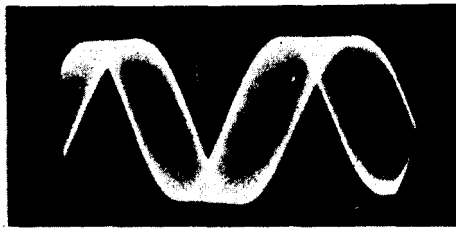

Figure 6-4. Waveform at AUDIO OUT Jack with AUDIO SELECTOR at 9960 FM
- g. 9960 FM. Appears as a 9960-cps sine wave with frequency modulation spreading out the waveform. See figure 6-4.